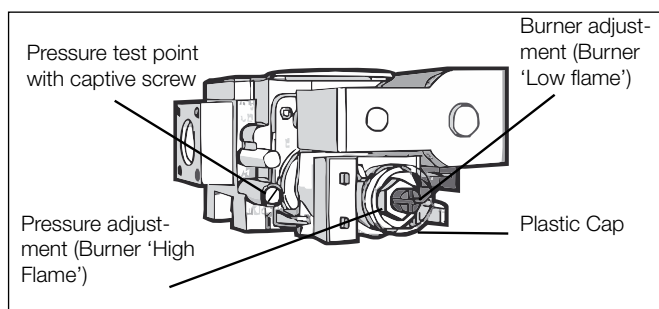

FIG 25
- Gas valve layout is as indicated in **FIG 25**.